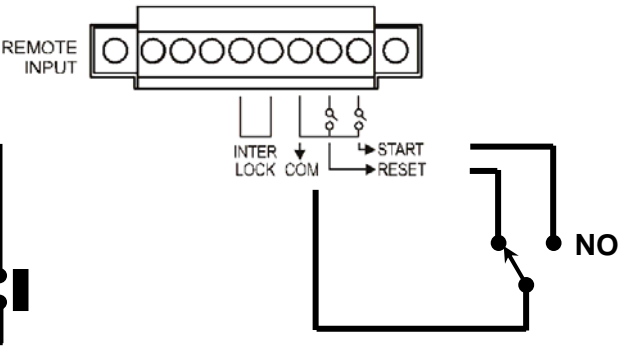

Figure 4-22
1. If users desire to single control START and STOP can refer to as this Figure 4-22 described method to connect to REMOTE position on rear panel.
2. As Figure 4-22, the main unit is under STOP status. NC point is connecting to STOP and NO point connecting to START.